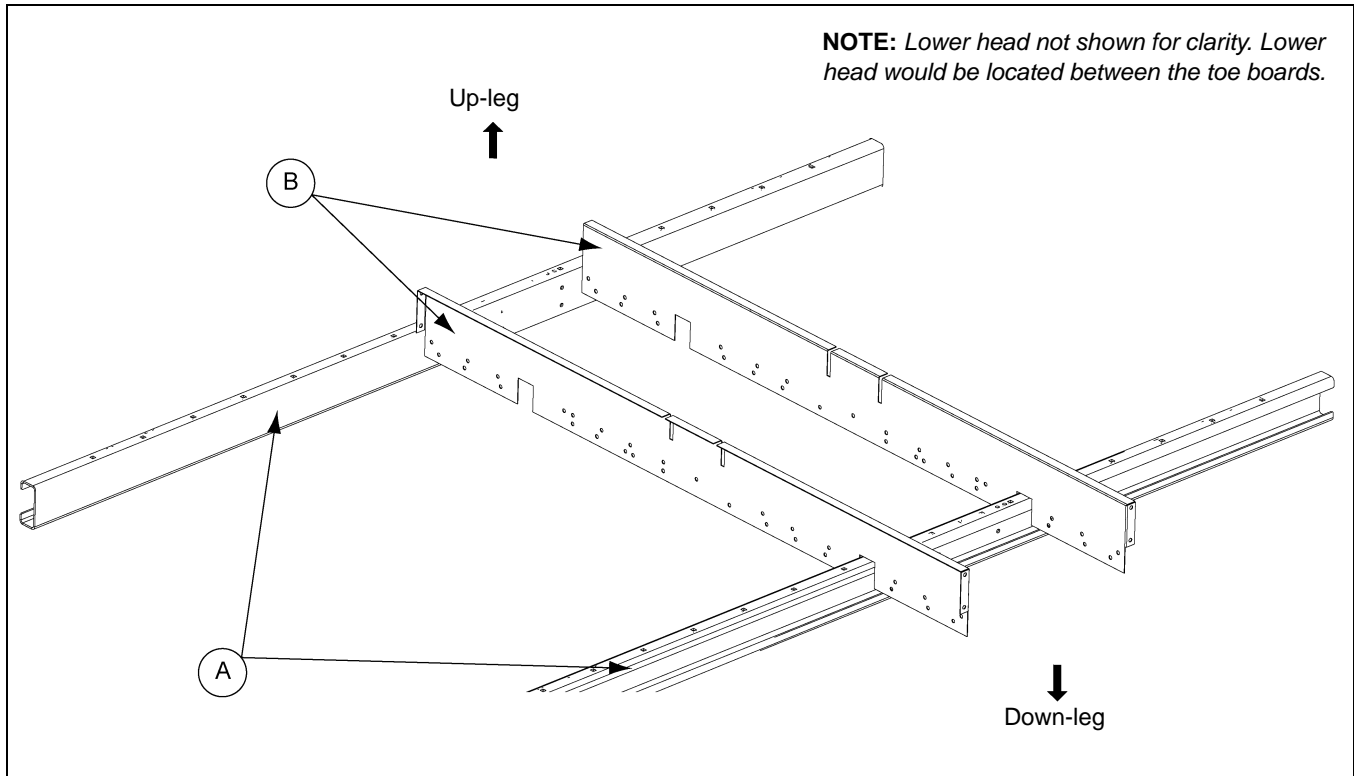

Figure 8G
1. On the non-drive side slide one toe board (HP36STBX) (B) into place.
2. On the drive side slide one toe board (HP36STBX) (B) into place. (See Figure 8G.)